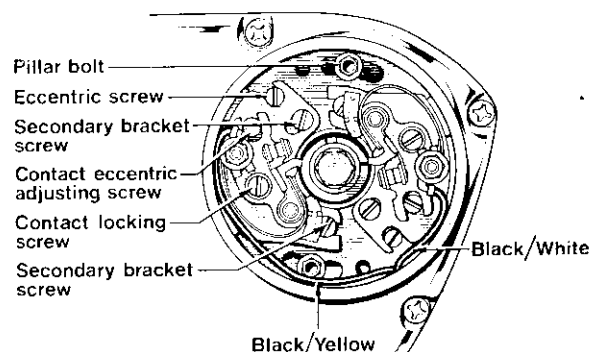

Fig. B23. Contact breaker 6CA
- (1) Connect the stroboscope to the right hand spark plug lead and start the engine. Read the strobo-light on the rotor marking in relation to the timing pointer or timing plate marking with the engine running at 2,000 R.P.M. or more. Adjust the main backplate on its slots until the marks align whereupon the timing on the one cylinder is correct.
- (2) Repeat for the L.H. plug and adjust the timing by slackening off the clamping screw on the auxilliary backplate and turning the eccentric screw (see Fig. B23) until again the markings align. Timing is then correct. Refit the primary chaincase inspection plate.